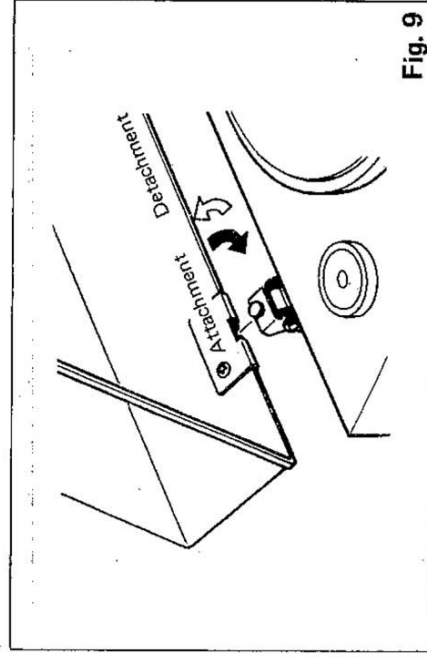

Fig. 9
3. **ATTACHMENT OF DUST COVER (Fig. 9)**